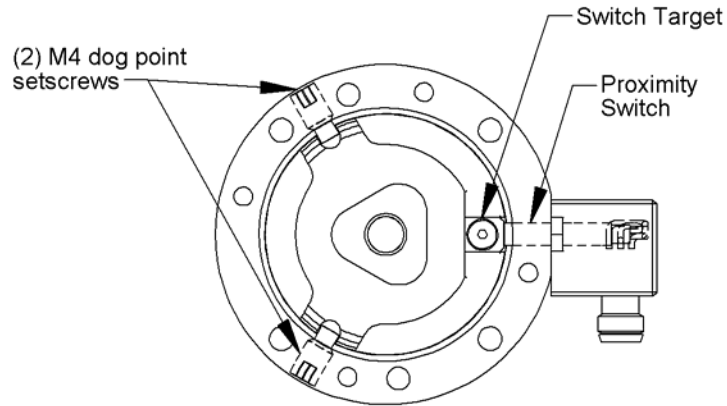

Figure 5.8—Piston Orientation
2. Place the Piston assembly in the Body, orienting the notches in the ribs on the piston with the screw holes in the body and the Switch Target with the Proximity Switch (see Figure 5.8).
4. Apply Loctite® 222MS to the two (2) M4 dog point setscrews.
6. Screw the two (2) M4 dog point setscrews clockwise until they touch the piston and then counterclockwise one turn.